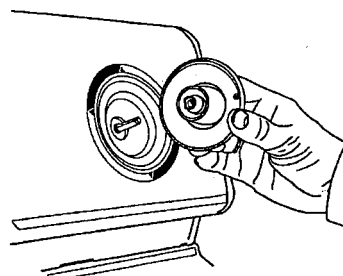

Figure 4-7
2. Carefully lift the timer knob and dial off the timer shaft by pulling the knob away from the face of the control console. (See Figure 4-7)